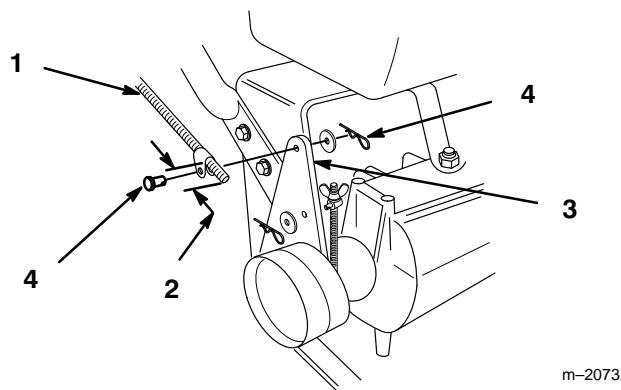

Figure 9
1. Thread rod fittings equal distance onto each control rod. For a starting point thread on approximately 2 in. (51 mm) (Fig. 9).
2. Slide clevis pins through rod fittings and mounting holes in idler brackets (from outside) (Fig. 9). Secure with washers and hairpin cotters (Fig. 9).